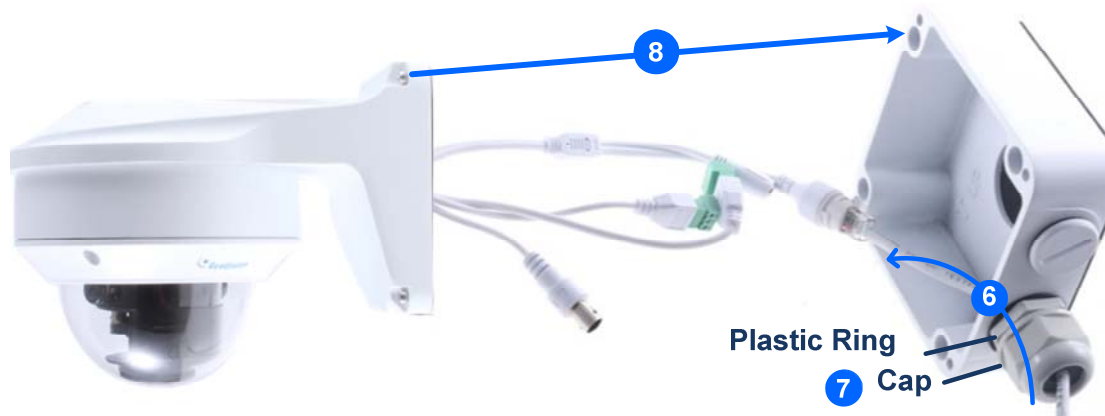

Figure 1-90
6. Thread the Ethernet cable through the PG21 conduit connector and the power box, as shown in No 6, *Figure 1-90*. Then connect the cable to the camera.
7. Rotate the plastic ring to secure the conduit connector to the power box. Screw in the cap shown in No 7, *Figure 1-90*.
8. Screw the wall mount bracket to the power box, as shown in No. 8, *Figure 1-90*.